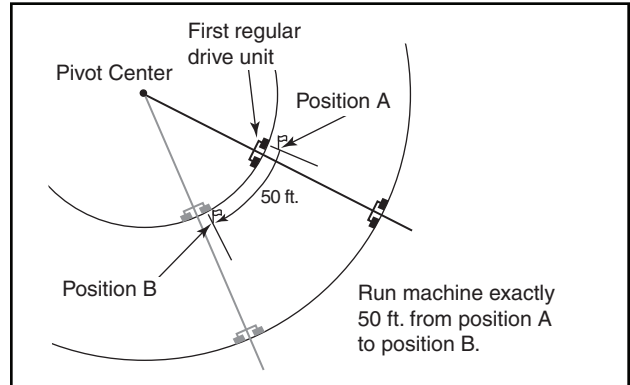

Figure 31-1
2. Place a flag next to wheel track and in line with center of rear wheel on the first regular drive unit. This is position A. See figure 31-1.
In the running direction opposite to that in step 1, measure a distance of 50 feet from position A, along the first regular drive unit wheel track and place another flag. This is position B. For this example the opposite running direction is forward. See figure 31-1.